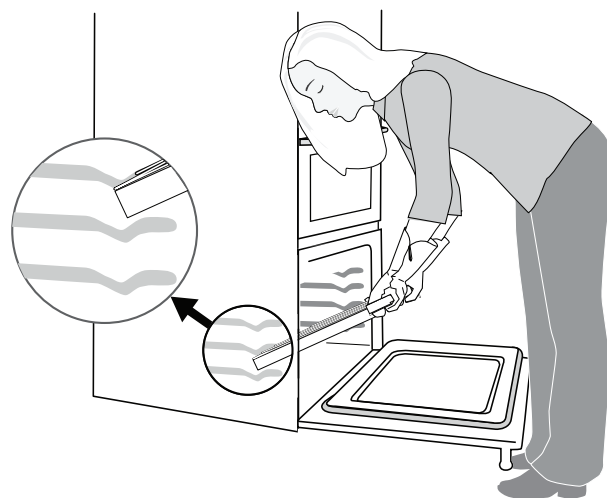

Figure 22: Removing and replacing the oven Glide Rack
3. Using both hands, grasp the upper and lower portions of the Glide Rack (Figure 22).
1. Grasp both upper and lower portions of the Glide Rack (Figure 22).